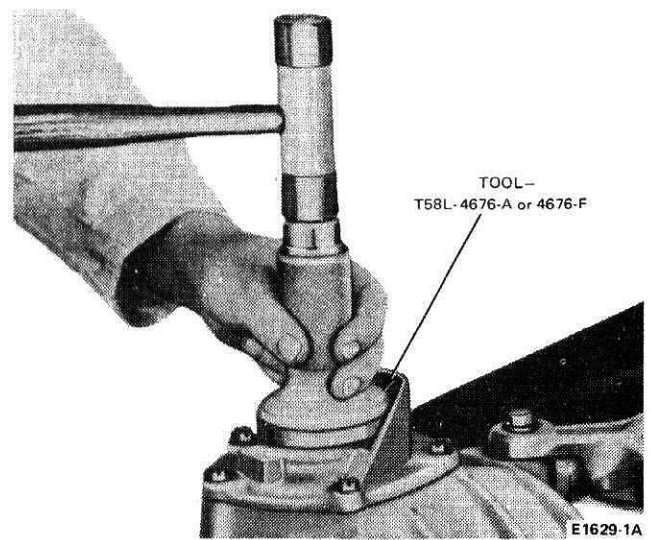

FIG. 46 Installing Oil Seal
11. Check the pinion bearing preload as shown in Fig. 46. Correct preload will be obtained when the torque required to rotate the pinion in the retainer is to specification.